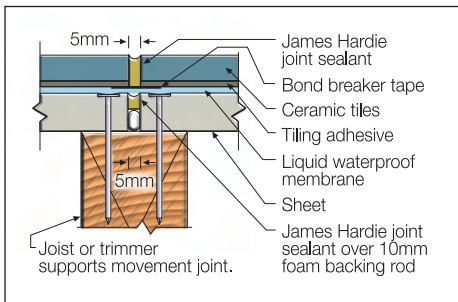

FIGURE 4 DIRECT TILE - TILE MOVEMENT JOINT OVER SHEET MOVEMENT JOINT
- Tiled surface is broken up, by sheet control joints. All sheet control joints must carry up through the tiles, see Figure 4.
- Tile control joints must align with all sheet joints and sheet control joints to avoid tile cracking, see Figures 4 and 4B.
2. When tiling direct to sheets, do not tile over butt joints, see Figure 4.
When tiling direct to sheets with no mortar bed, the 5mm butt joints between all adjacent sheets act as control joints. These control joints must be carried up through the tiled finish, see Figure 4.